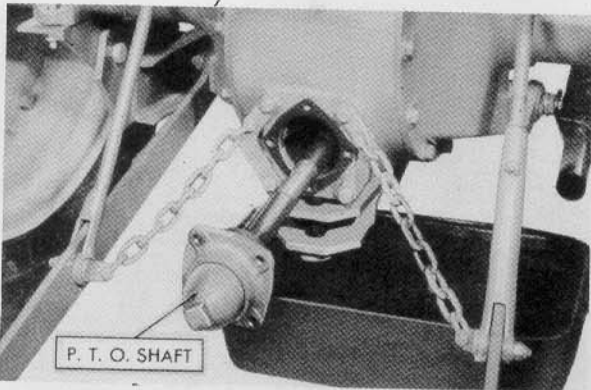

Figure 3
2. Remove the four cap screws from the P.T.O. housing at the rear of the tractor and pull the power take-off shaft assembly rearward. See Figure 3.